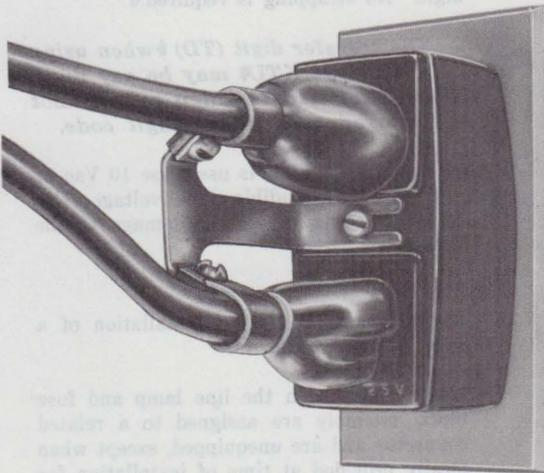

Fig. 12—Twin-Plug Retainer Mounted on a Power Cord Plug Adapter
- **Power-cord plug adapter (Hubbell BL-12433)**—when a 3-conductor ac power cord must be connected to a duplex 2-conductor ac power receptacle (Fig. 12).
- **Power-cord plug retainer assembly (KS-19266)**—to prevent accidental removal of a power-cord plug (Fig. 12).